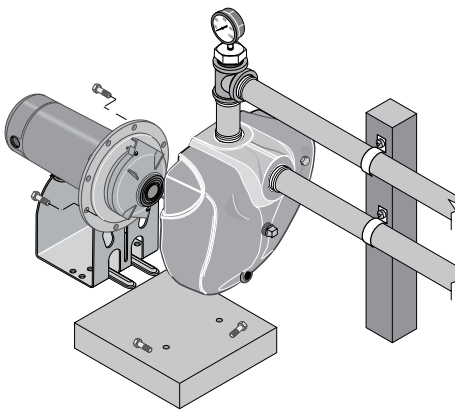

Figure 13: Slide Motor Back
Pump and piping need not be disconnected to repair or replace motor or seal (see Figure 13). If motor is replaced, replace the shaft seal (Key No. 5, Page 12). Keep one on hand for future use.
2. Remove capscrews holding seal plate to pump body. Motor assembly and seal plate can now be pulled away from pump body (Figure 13). CAREFULLY remove gasket.